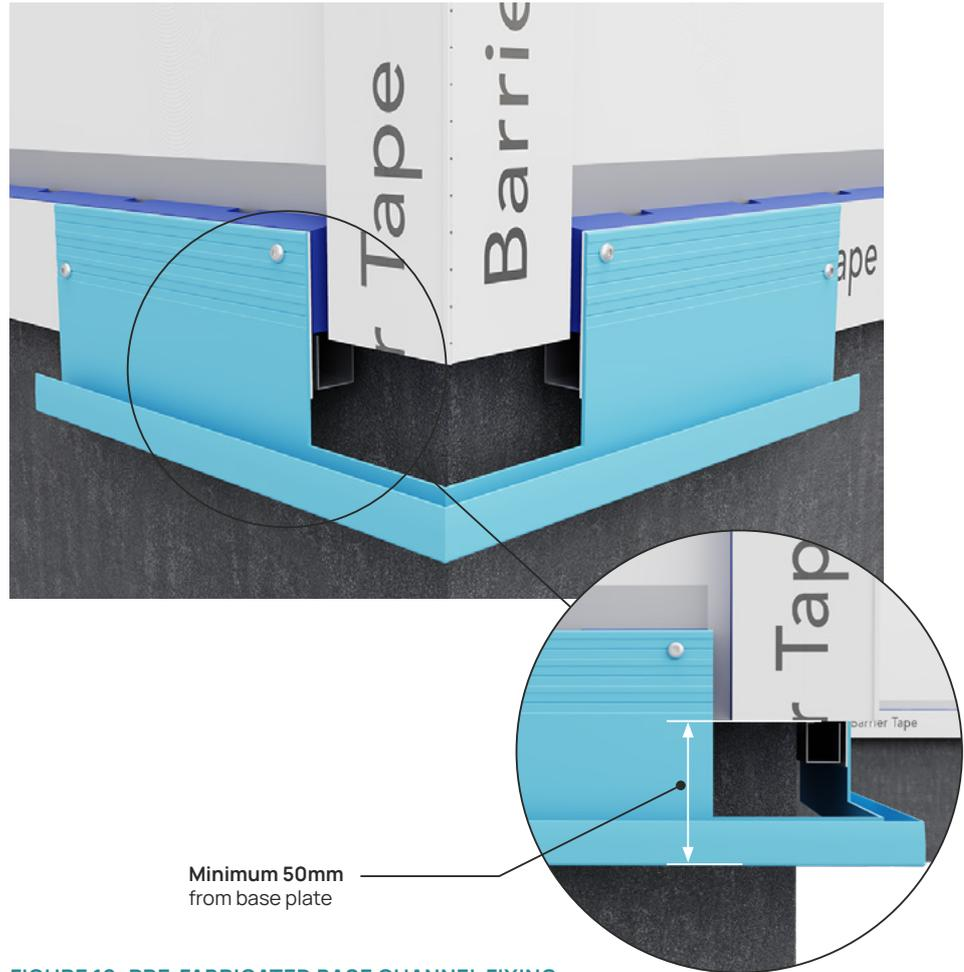

FIGURE 10: PRE-FABRICATED BASE CHANNEL FIXING
2. Screw fix the pre-fab base channel corners as it is likely you will be adjusting its position. - See Figure 10.